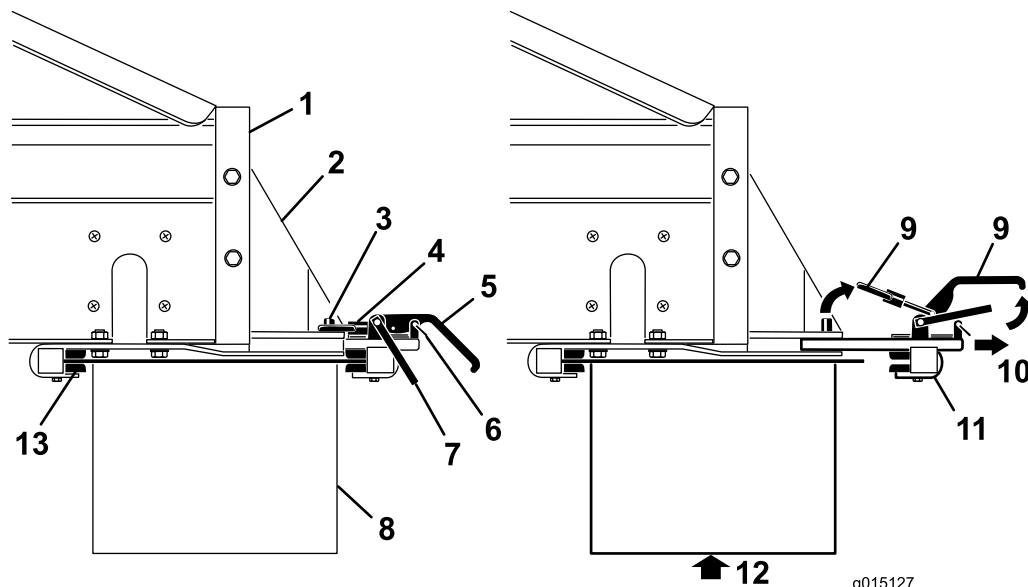

Figure 29
1. Remove the safety latch clips from the clamp handles (Figure 29).
- Lift the safety latch, then lift the option attachment clamp handles, and release the lock rings from the lock pins (Figure 29).
- Slide the rear option attachment clamp assembly out of the quick attach slots (Figure 29).
- With assistance, insert the front edge of the twin spinner up and under the rear of the MH-400 into the front clamps on the brackets (Figure 29).
- While supporting the twin spinner, slide the rear option attachment clamp assembly back into the slots in the brackets, and over the rear edge (Figure 29).
- Reinstall the safety latch clips to the clamp handles (Figure 29).